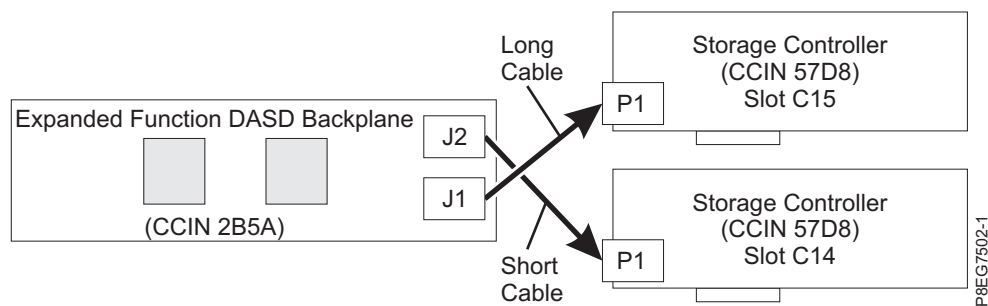

Figure 215. Reconnecting the SAS cable in an expanded function configuration
- The long SAS cable connects the lower disk drive backplane connector (J1) to the P1 connector on the SAS RAID internal adapter in slot P1-C15. See Figure 215.